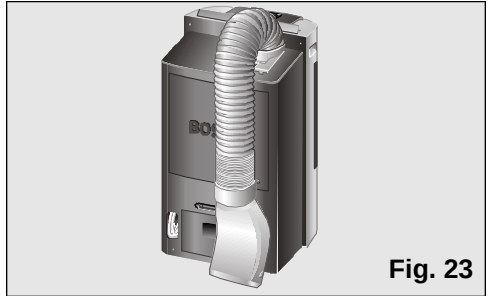

Fig. 23
- ☐ To do this, bend the tube towards the back of the appliance and secure it with the diffusion hook, **Figs. 23 and 24**.